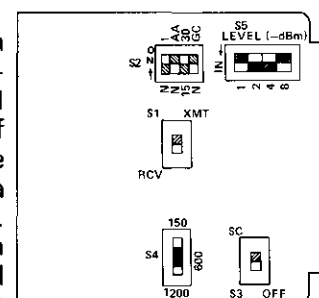

figure 8. 3228 option switch locations
3.06 Three option switches must be set before the 3228 is placed into service. Two of these switches are slide switches, and one is a four-position DIP switch. (A second four-position DIP switch, S5, is used only in the transmit mode for prescription adjustment of the module's output level at the 2wire facility port. The setting of this switch is covered separately in the subsection of this Practice entitled **output level adjustment (transmit mode)**, which follows **option selection**.) Locations of all switches on the module's printed circuit board are shown in figure 8.